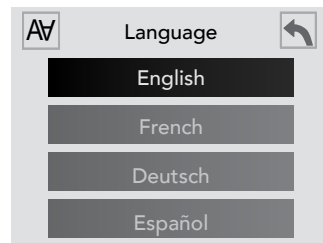

Figure 12.10b
1. There are 4 languages to select from: English, French, Deutsch, and Español. To select a language, tap the language tab you want to display, Figure 12.10b.